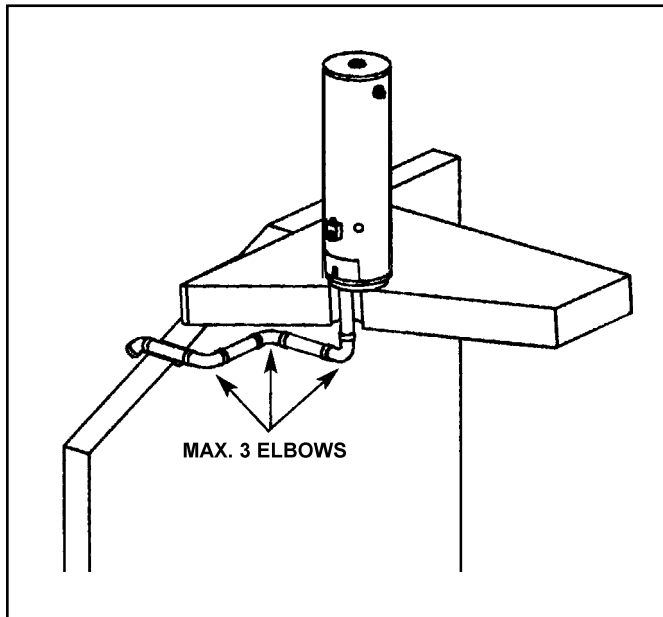

FIGURE 22.
6. The intake air vent piping can be installed with no more than 3 elbows, see Figure 22.